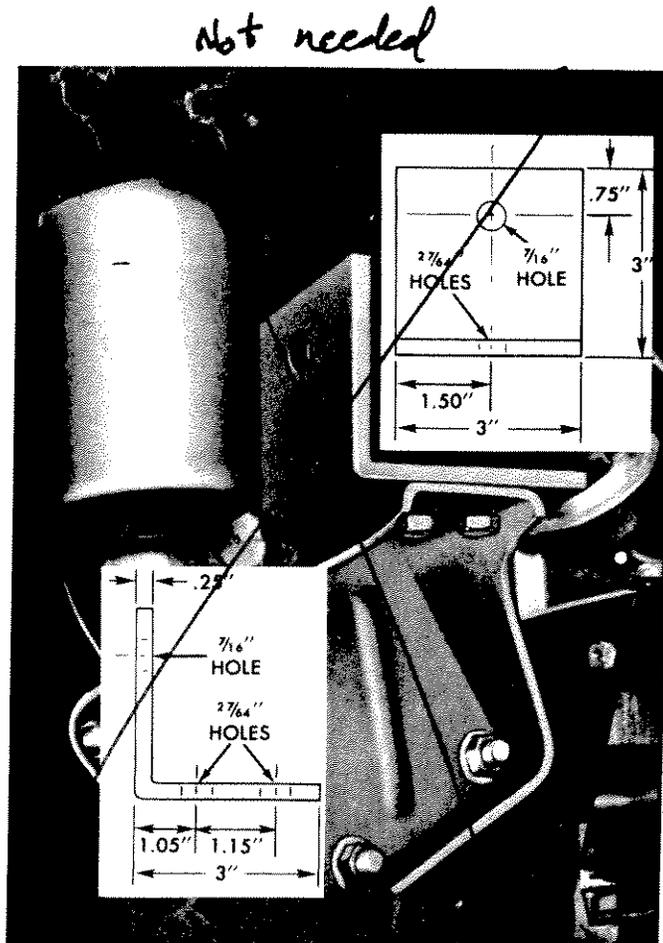

Fig. 49—Lifting Adapter
**NOTE:** Because of a difference of 1-5/8" between the center line of the crankshaft and the engine rear mounting bracket, a special lifting adapter is required. This adapter, made from angle iron 3" x 3" x 1/4" and mounted as shown (Fig. 49), will provide a center line lifting point.